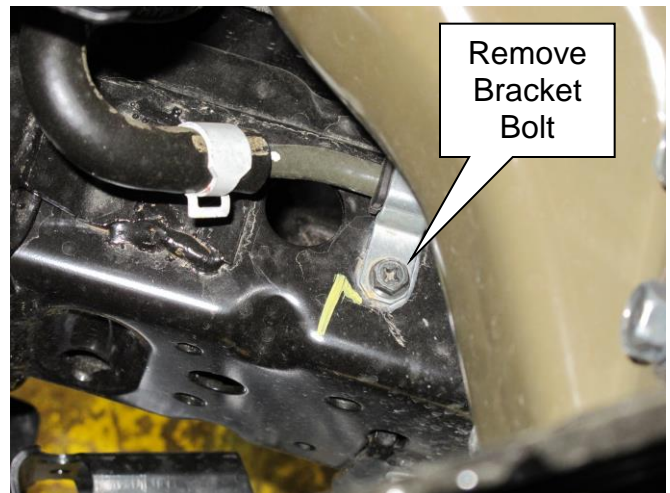

Figure 11
9. Inspect **four** bypass valve hoses for proper configuration (Figure 11, 12).
11. **CORRECT ANY BYPASS VALVE HOSES THAT ARE NOT PROPERLY INSTALLED, REFERENCE STEP 9 (FIGURE 11, 12).**
- Torque (5) bolts to **13.5N·m (10 ft-lb)**.